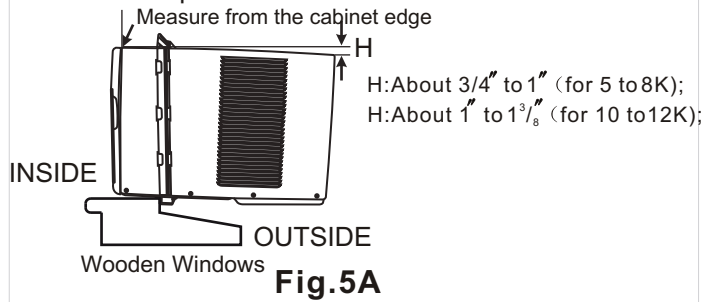
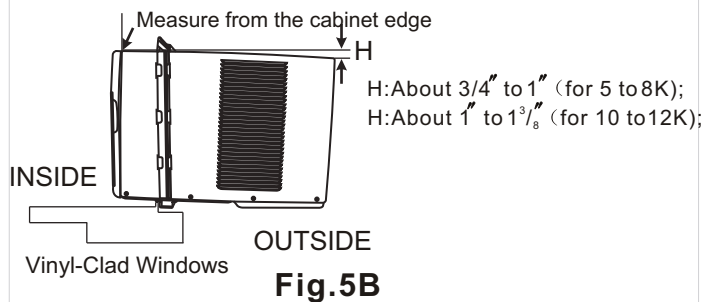

Fig.5A
Fig.5B
A. Keep a firm grip on the air conditioner, carefully place the unit into the window opening so the bottom of the air conditioner frame is against the window sill (Fig.5A and Fig.5B). Carefully close the window behind the top rail of the unit.
NOTE: Check that air conditioner is tilted back about H (Fig.5A and Fig.5B) (tilted about 3° to 4° downward to the outside).